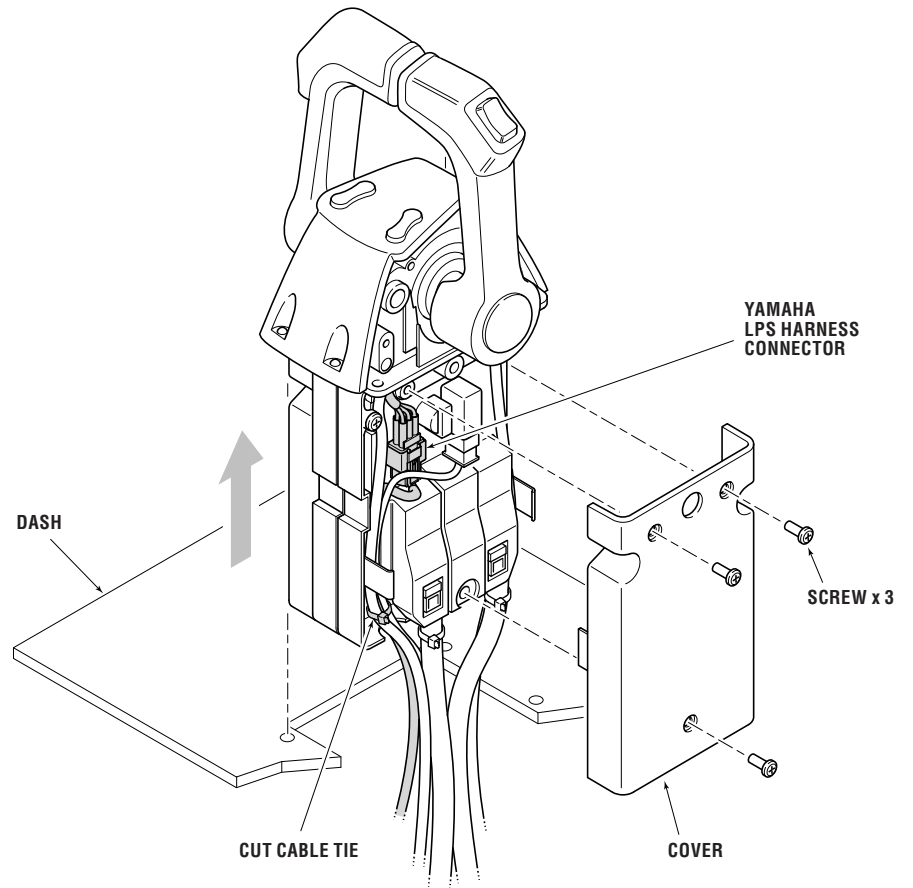

Figure 7-2. Cover removal and LPS harness identification.
4. Remove the control head from the dash far enough to expose the cover mounting screws. (Refer to figure 7-2. Port side is shown.) Both sides will need to be removed, but it is recommended that you proceed with one side at a time. Be sure to support the control head so that the harnesses are not under strain.
5. Cut the cable tie securing the harnesses to the binnacle chassis. (Refer to figure 7-2.)
6. Disconnect the Yamaha LPS harness. The port harness will be identified with a 'P' and the starboard harness will be identified with an 'S'. (Refer to figure 7-2.) Triples and quads: There will be harnesses labeled CP and/or CS. You will not use these harnesses for a triple, but you will need to connect them for a quad. Disconnect only one harness at a time. The connectors are only labeled on one end, and it is very easy to mix them up if both are disconnected.